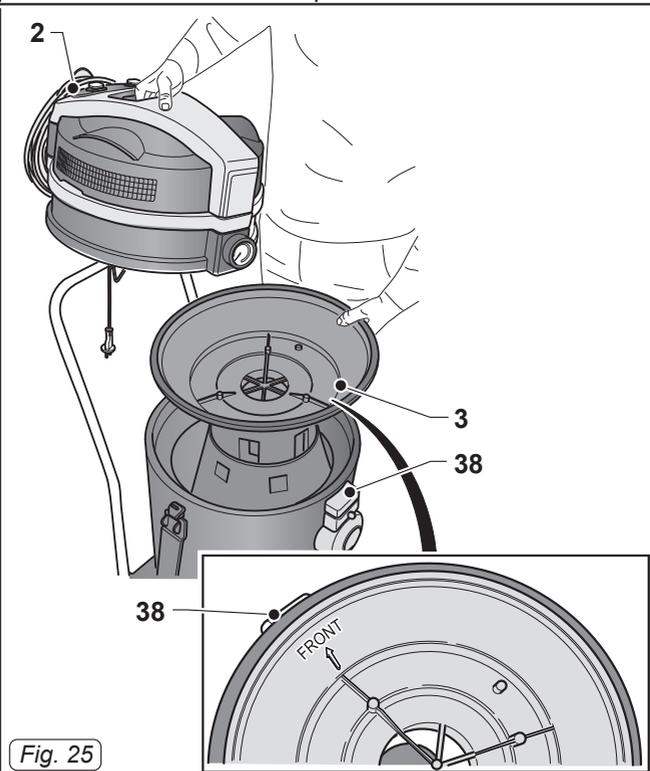

Fig. 25
- Re-mount the floater-holder (3 Fig. 25), with the “**FRONT**” arrow aligned with the front part of the machine (38 Fig. 25); also re-mount the cover (2 Fig. 25) and block it via the levers (1 Fig. 1).